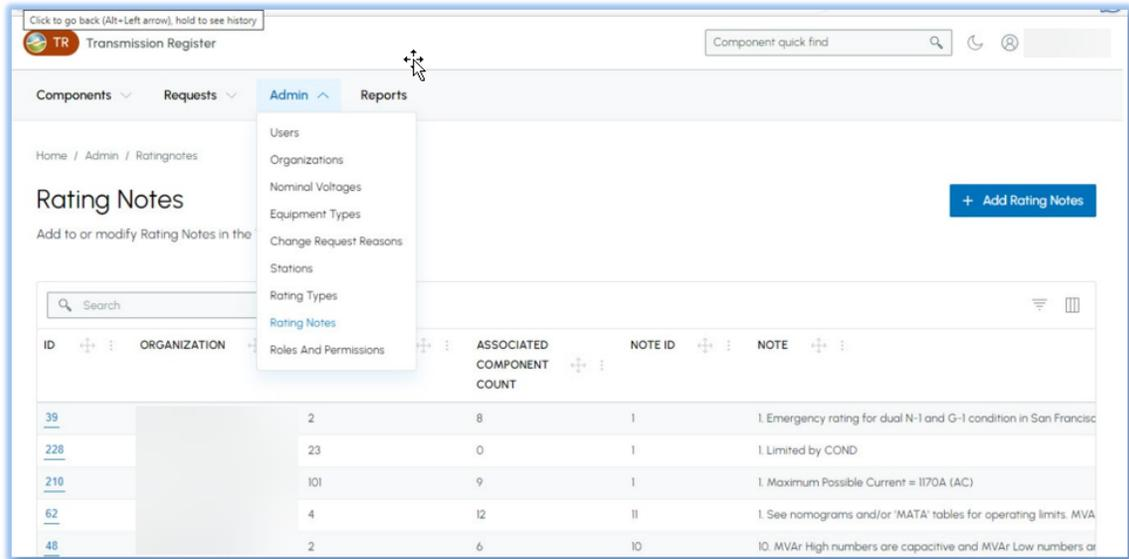

Figure 32 Rating Notes Screen
- 2) Click the ID number to view the details of the rating note and the window in Figure 32 loads.